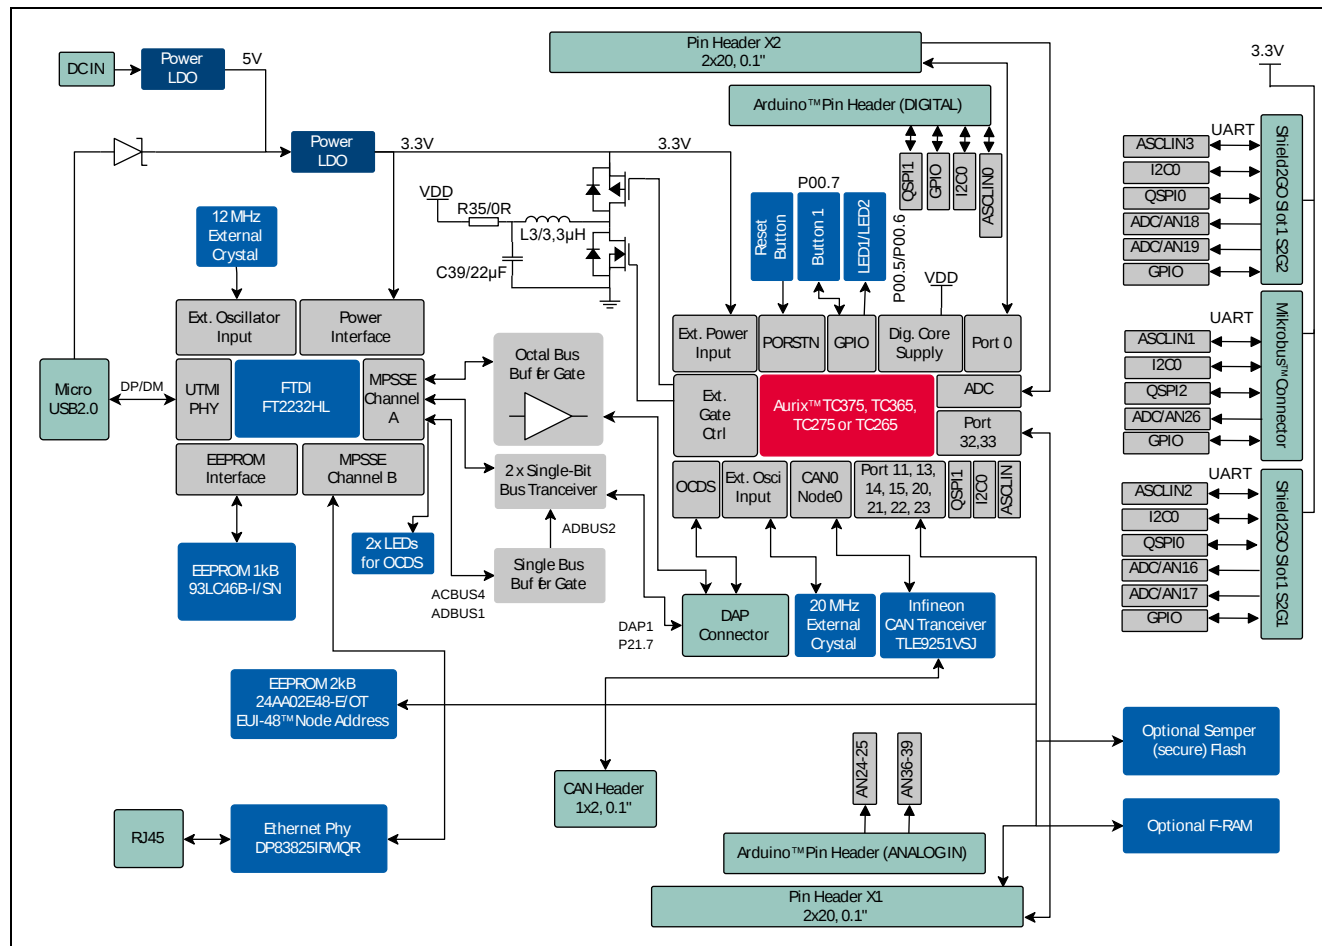

Figure 1 **Block Diagram of the AURIX™ lite Kit V2**
- The block diagram in Figure 1 shows the main components of the AURIX™ lite Kit V2 and their interconnections.